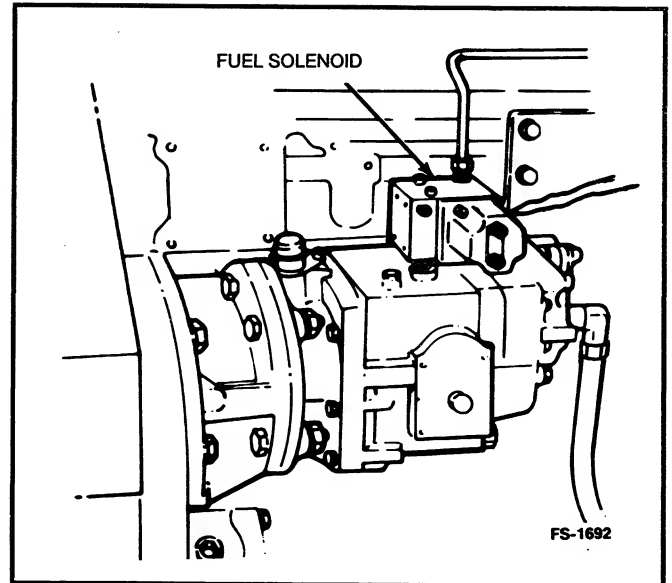

FIGURE 6-4. FUEL SOLENOID VALVE LOCATION
5. Disconnect wire from fuel solenoid valve (see Figure 6-4).